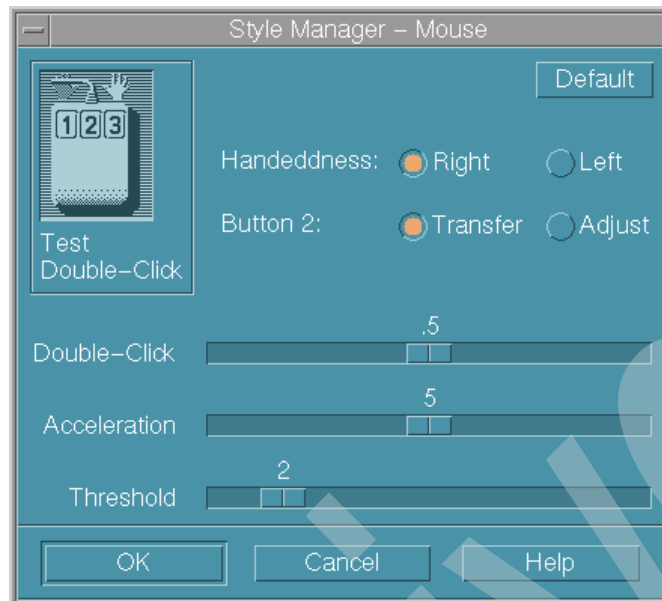

Figure 4-4 Style Manager - Mouse
3. To modify the acceleration on the mouse behavior move the acceleration slider to a higher value (Figure 4-4). Depending on your needs the mouse sensitivity could be changed from a small moving area to a large moving area.